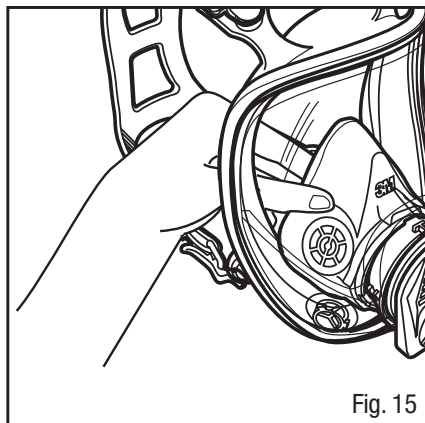

Fig. 15
1. Remove nose cup assembly (except in 3M™ Powerflow™ Systems) by pulling away from center adapter inside facepiece (Fig. 15).
1. Remove the nose cup assembly by pulling away from center adapter inside facepiece (Fig. 15).